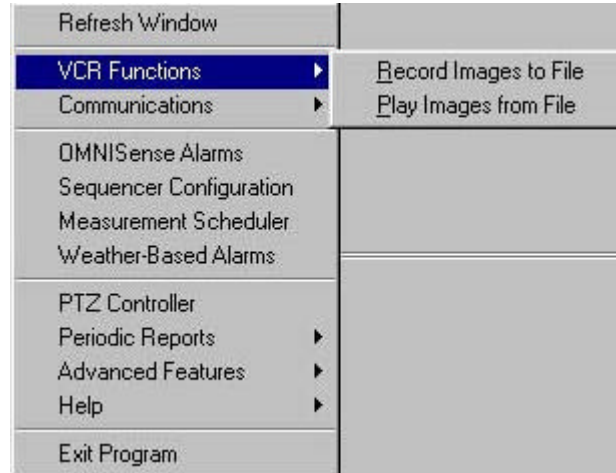
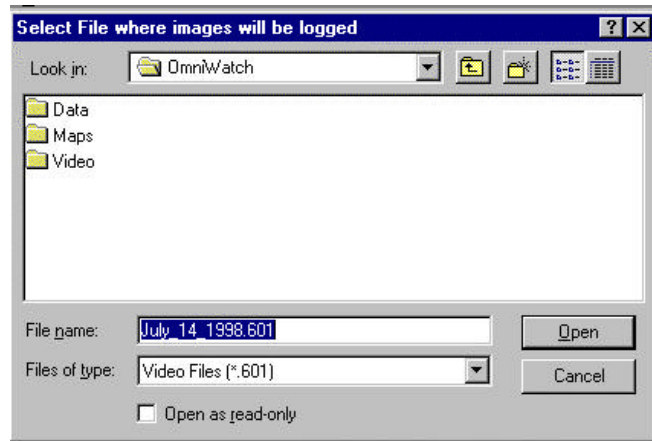

Figure 3.9 VCR Recording Menu
Figure 3.10 VCR Save Files Menu
2. Right click on “VCR Functions” and “Record Images to File” (Ref to Fig 3.9). The “Select file where images will be logged” window will appear (Ref to Fig 3.10). The window default is the C:\Program Files\Sii\ folder or to the folder where the most recent file was stored. A default file name is derived from the CDU computer’s internal date and time. The operator can change this if necessary.
there is a “check mark” in front of the “Record Images to File”, then recording of the images shown in the Video Image Area is active (Ref to Fig 3.9).
1. Bring up the floating menu. Click on “VCR Functions” and highlight “Record Images to File”. This toggles the recording off. The “check mark” (Ref to Fig 3.9) will disappear.